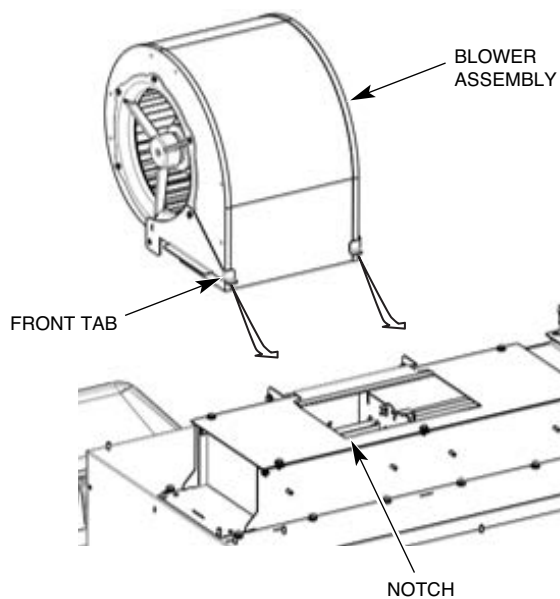

Fig. 21
2. Install the blower assembly on top of the heater housing by lowering the blower assembly on an angle so that the front tabs hook underneath the notches on the top plate of the heater housing (Fig. 21 and 22).